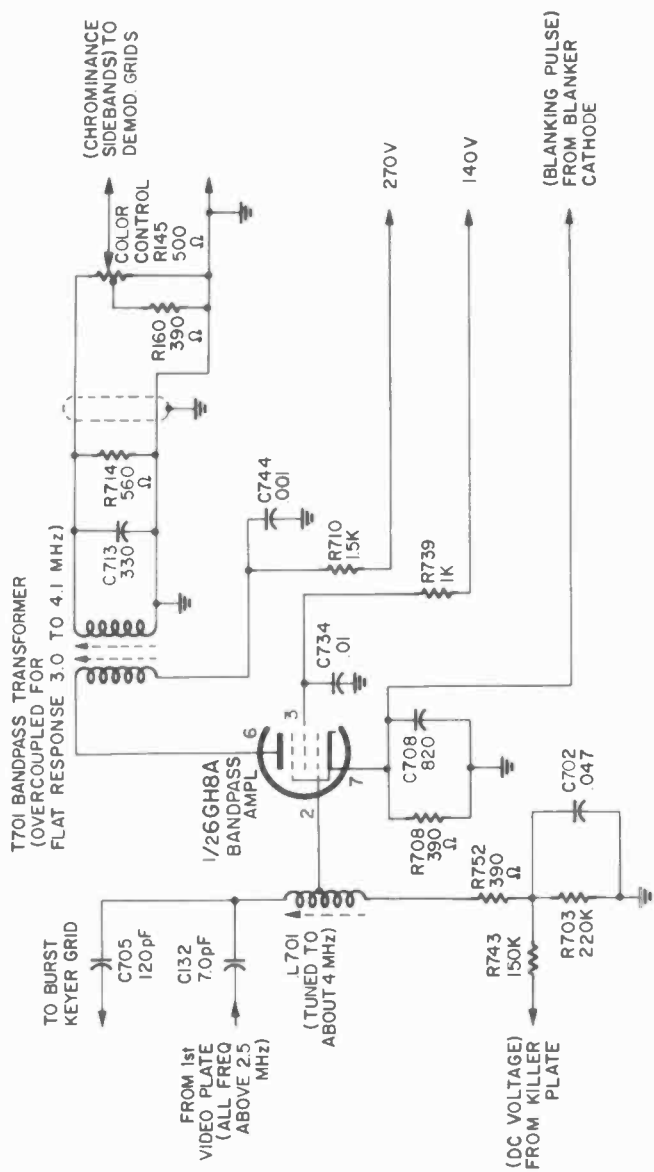

Fig. 401—Chroma bandpass amplifier of RCA CTC16X color chassis.
Let's take the chroma circuit of the RCA CTC16X, since it is typical of many modern receivers, and study it in detail. Fig. 401 shows the complete diagram of the chroma i.f. amplifier, sometimes called the chroma bandpass. It's just a simple one-tube tuned-pentode amplifier and should be easy to understand, troubleshoot and repair. Yet, do you recall the day Joe Bloe called you for advice, saying . . . . "I don't have any color at all. Is it the picture i.f.'s or the 3.58 oscillator, or where do I look?" His voice was unusually serious, as though income-
2. To reduce the possibility of opens in sockets or board wiring, measure the resistance from connecting points of the circuit rather than across the suspected part itself. For example: In Fig. 401, measure from the grid pin of a test socket inserted in the 6GH8 socket to ground. If the reading is about 220K, you have proved the continuity of the socket, L701, R752 and R703 in one easy test. An ohmmeter test is the best one to use on a grid return